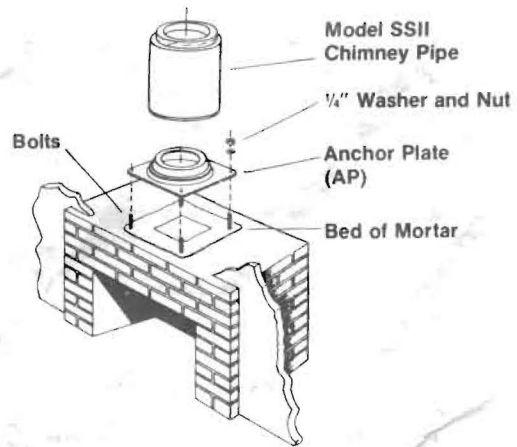

FIG. 5 ANCHOR PLATE INSTALLATION IN MASONRY FIREPLACE
1. Using the anchor plate as a template, centered over the outlet opening, drill and anchor four 1/4" diameter bolts 2" long securely into the top of the masonry fireplace. See Figure 5.